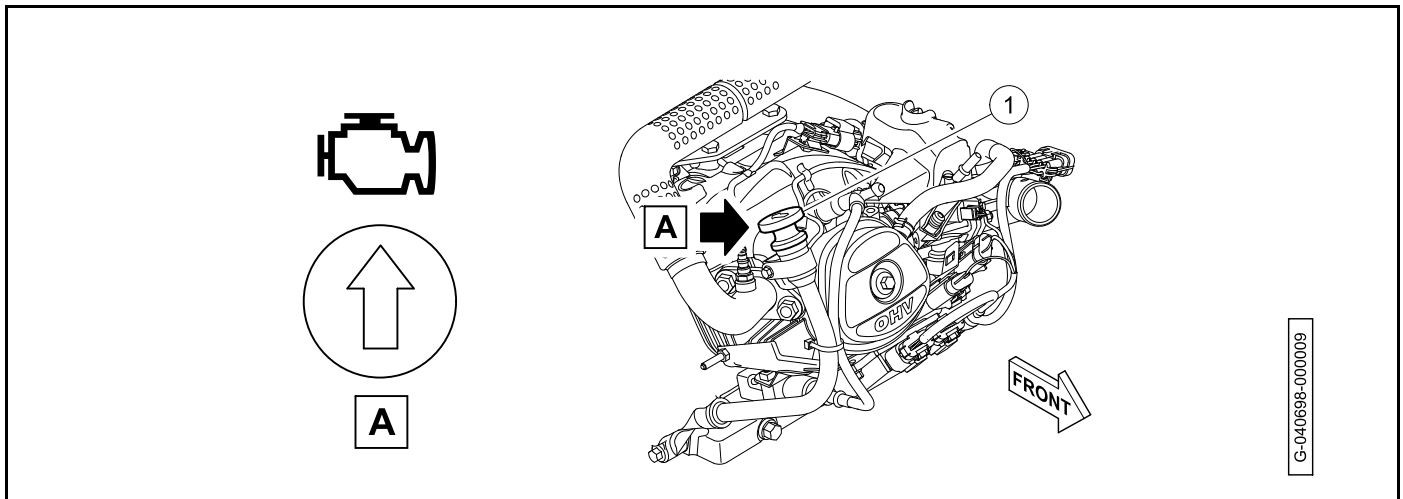

Figure 10-7 Dipstick
1. Remove the dipstick (1) (**Figure 10-7, Page 10-13**).
1. Remove the dipstick (1) (Figure 10-7, Page 10-13).